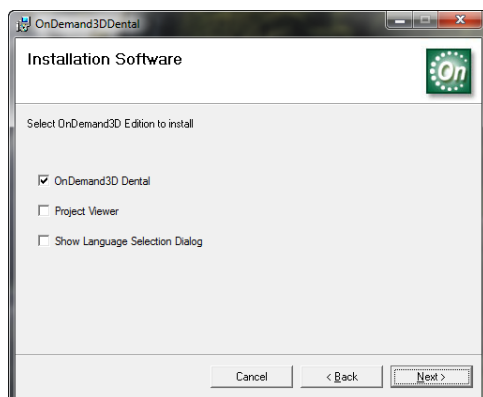

Fig. 1 Select items to install
Step 2: Follow the steps in [Install Shield Wizard] and click [Next] to proceed as shown in Fig. 1.